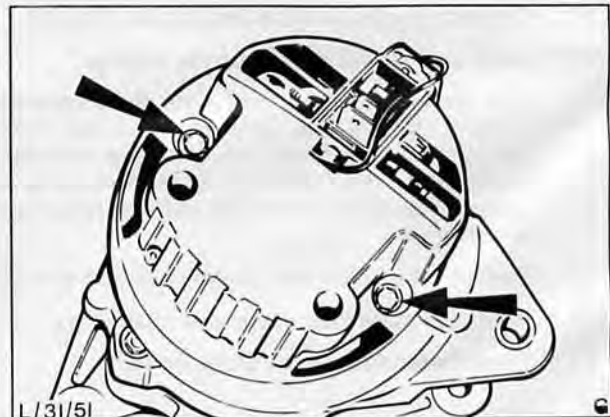

Fig. 40. Rear cover retaining screws. (18ACR shown)
2. Remove alternator rear cover, Fig. 40.